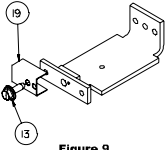

Figure 9
10. Reference fig. 9 - Installing the provision barrier (item 19). In case of a provision, orient the barrier as shown in fig. 9. Insert the 5/16-18" screw (item 13) through the 0.312" hole in the barrier and through the 0.281" hole in the B-phase and tighten. Repeat this step if there is another provision.